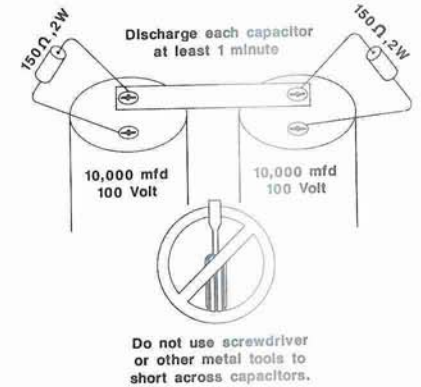

Figure 2. Capacitor Discharging
3. Carefully discharge each large filter cap through a 150 ohm, 2 watt resistor for at least 1 minute. Refer to Figure 2 for details.